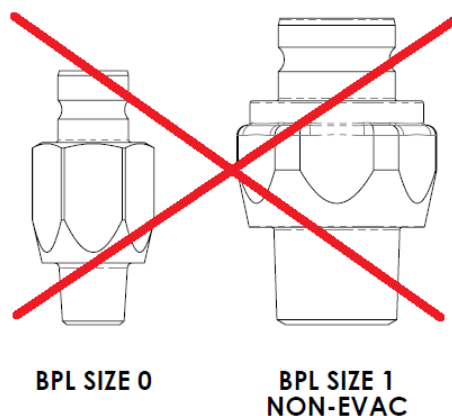

Figure 2 – NON-COMPATIBLE BPL receivers
- Banlaw Size 0 BPL receiver (Banlaw Part No. BPLR0) – see Figure 2
- Banlaw Size 1 Non-Evac receivers (Banlaw Part Nos. BPLR1AN and BPLR1BN) – see Figure 2